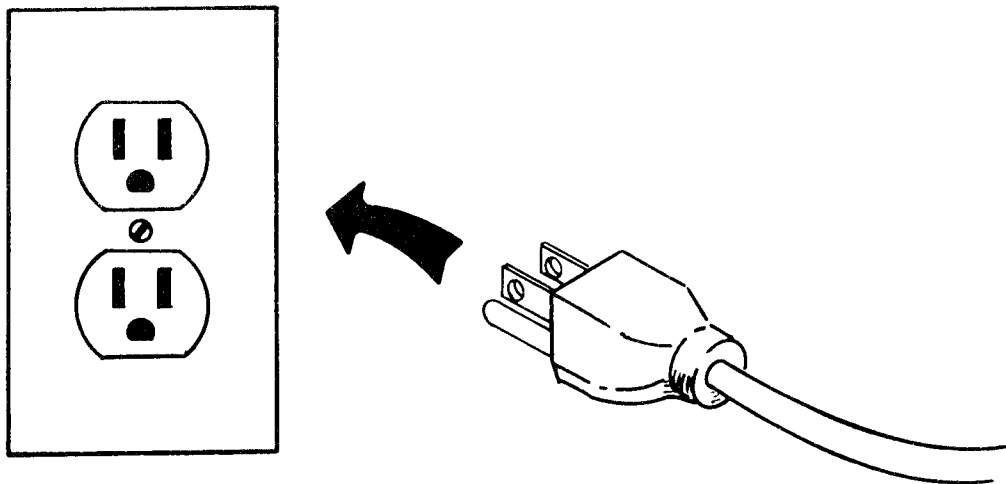

Figure 54. Plug Power Cord Into Power Source
- d. Plug the power cord into a power source (see Figure 54).